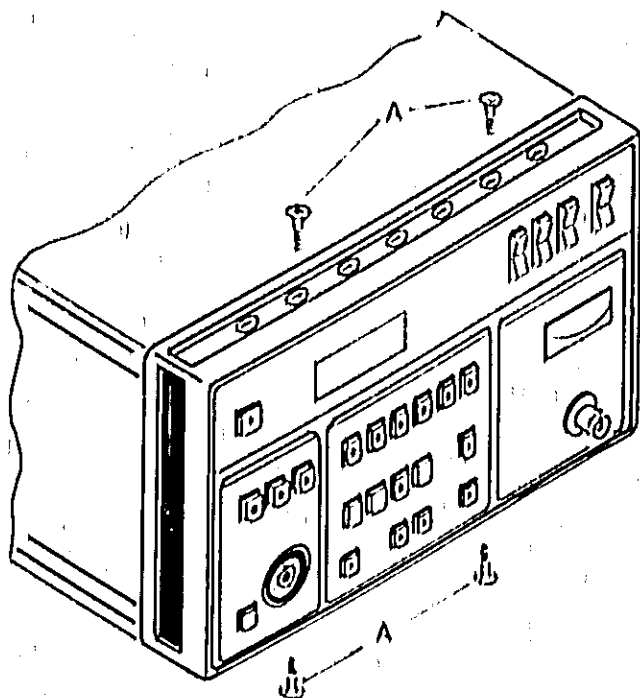

Figure 8-6-3. Frontpanel Disassembly.
5. Remove the 4 screws indicated by 'A' in figure 8-6-3.